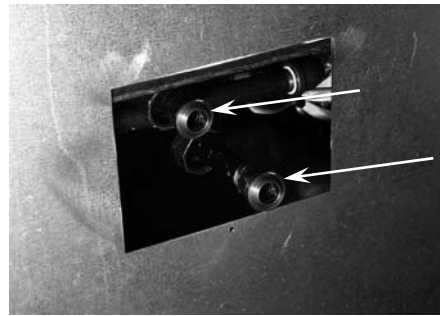

Figure 5. Oil return and rinse-line (where applicable) connections.
4. Remove the lower back panel-strips on fryers being assembled to gain access to the oil return and rinse-line connections (Figure 5, arrows). Back removal may not be required on some systems.